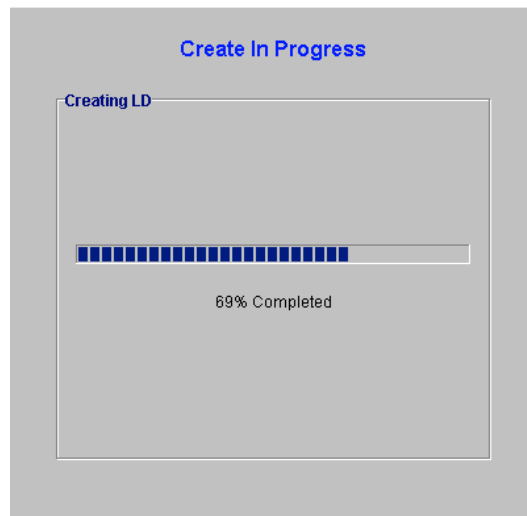

Figure 8-13: Create in Progress
Step 3. If you selected the “*OK*” button in the “*Please Confirm*” window the “*Create In Progress*” content window shown in *Figure 8-13* will display logical drive creation progress.